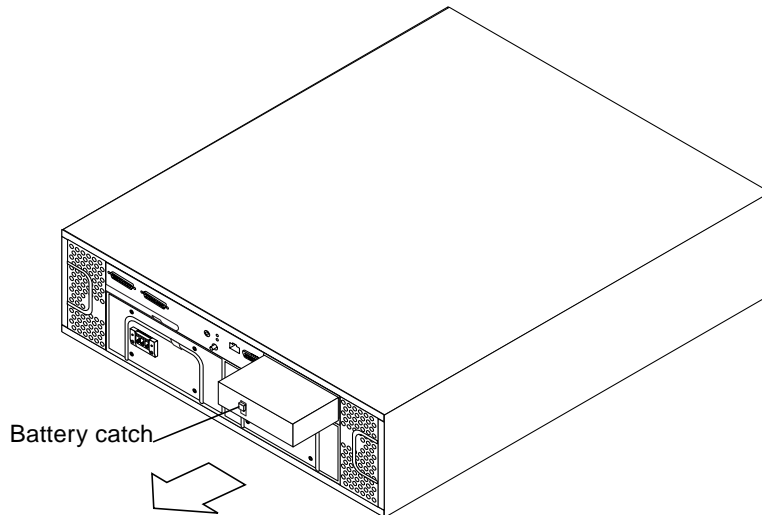

FIGURE 4-8 Removing the Battery
1. **Locate the battery on the back of the unit (FIGURE 4-8).**
2. **Push down the catch on the outside of the battery (FIGURE 4-8).**